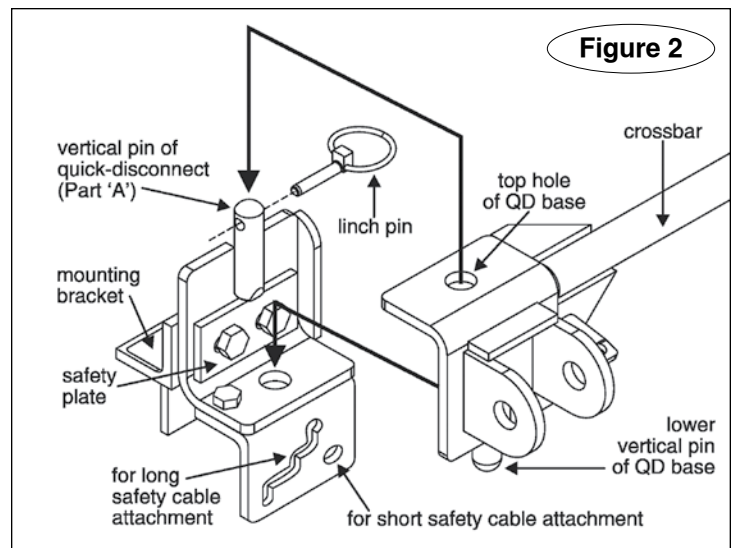

Figure 2
2. Now, test-fit the crossbar – lower the crossbar (Figure 2) over the quick-disconnects. The vertical pins at the top of both QDs should fit through the top holes at the ends of the crossbar (Figure 2), and the vertical pins at the bottom of the crossbar should fit through the lower holes on the quick-disconnects (Figure 2).
5. Both lynch pins must be inserted through the upper holes in the vertical pins in parts "A" and "B," as shown in Figure 2.